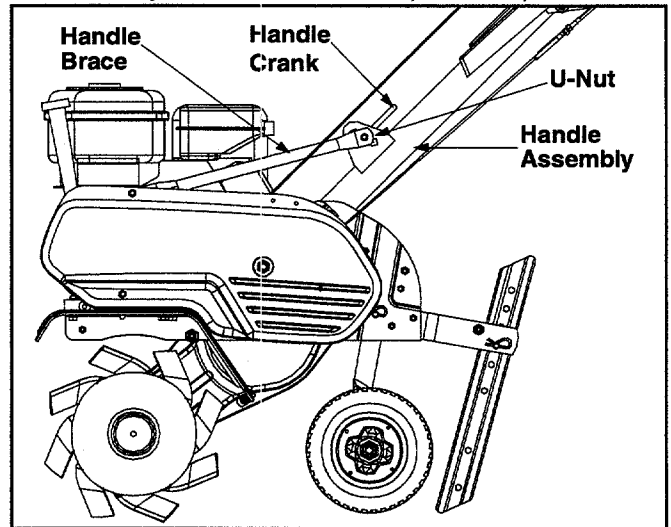

Figure 2
- Insert the handle crank through the welded bracket on the handle and into the threaded U-nut on the end of the handle brace. See Figure 2.